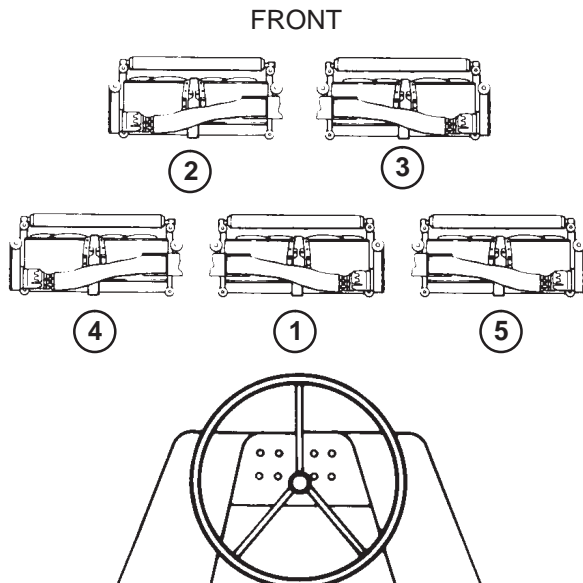

Figure 1
1. Refer to Figure 1 and layout all five cutting units on the floor in front of the machine. Position 3 right-hand cutting units (all three are alike) as #1, #3 and #5. Position the left-hand #2 and #4 cutting units also (both are alike).